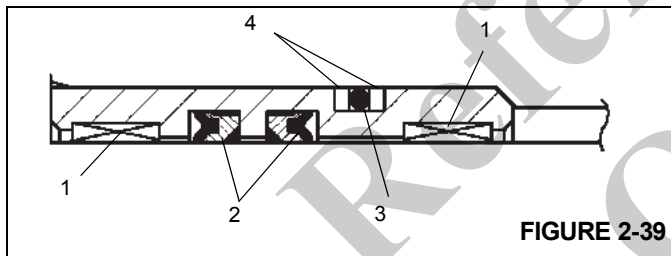

FIGURE 2-39
2. Install the O-ring and backup rings on the outside of the seal retainer and the deep Z rod seals and wear rings in the inside of the seal retainer Figure 2-39.